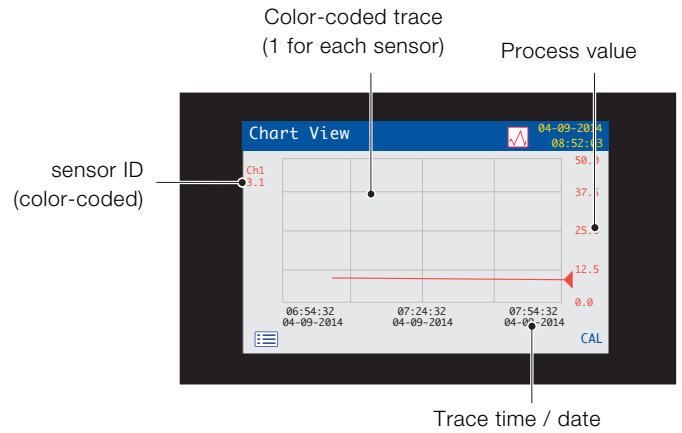

Fig. 8.8 Chart view
- *Chart view* – represents the sensor readings as a series of color-coded traces – see Fig. 8.8